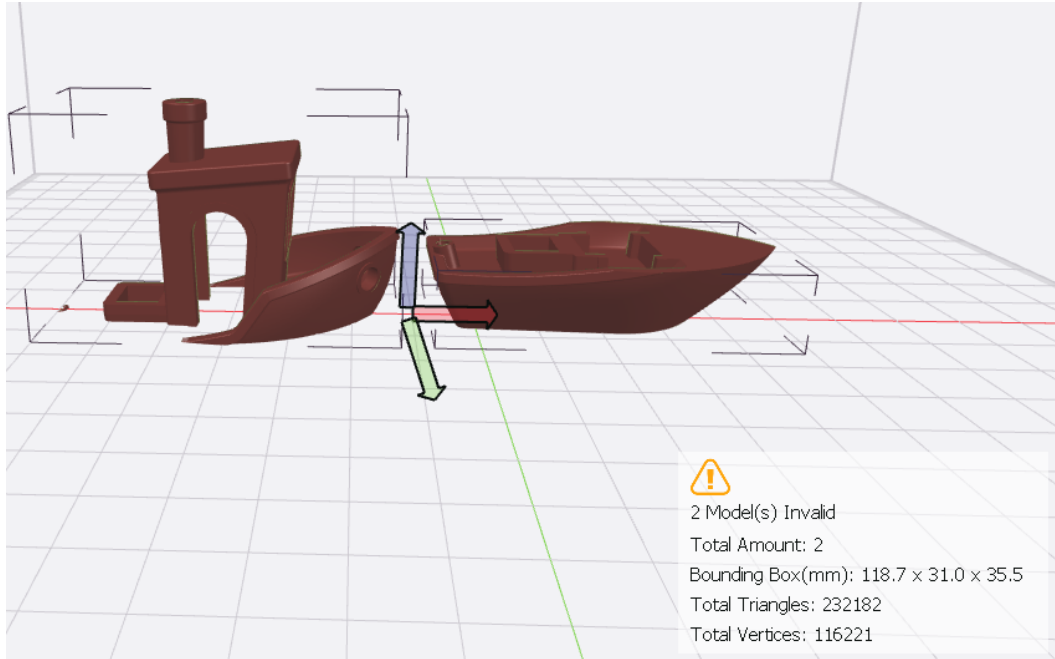

Figure 2.9 – The result of using the Free Cut tool in ideaMaker
5. There are now two models, and as we can see in *Figure 2.9*, they are invalid. Clicking on one, we see an error indicating non-manifold edges. To fix these errors, we need to click on the **Repair** icon at the top.